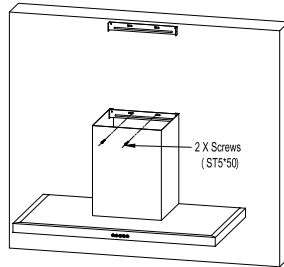

Fig.5
- After connecting the exhaust pipe well, fix chimney installation plate to prevent the range hood from accidentally sliding off the installation plate. See Fig.5.